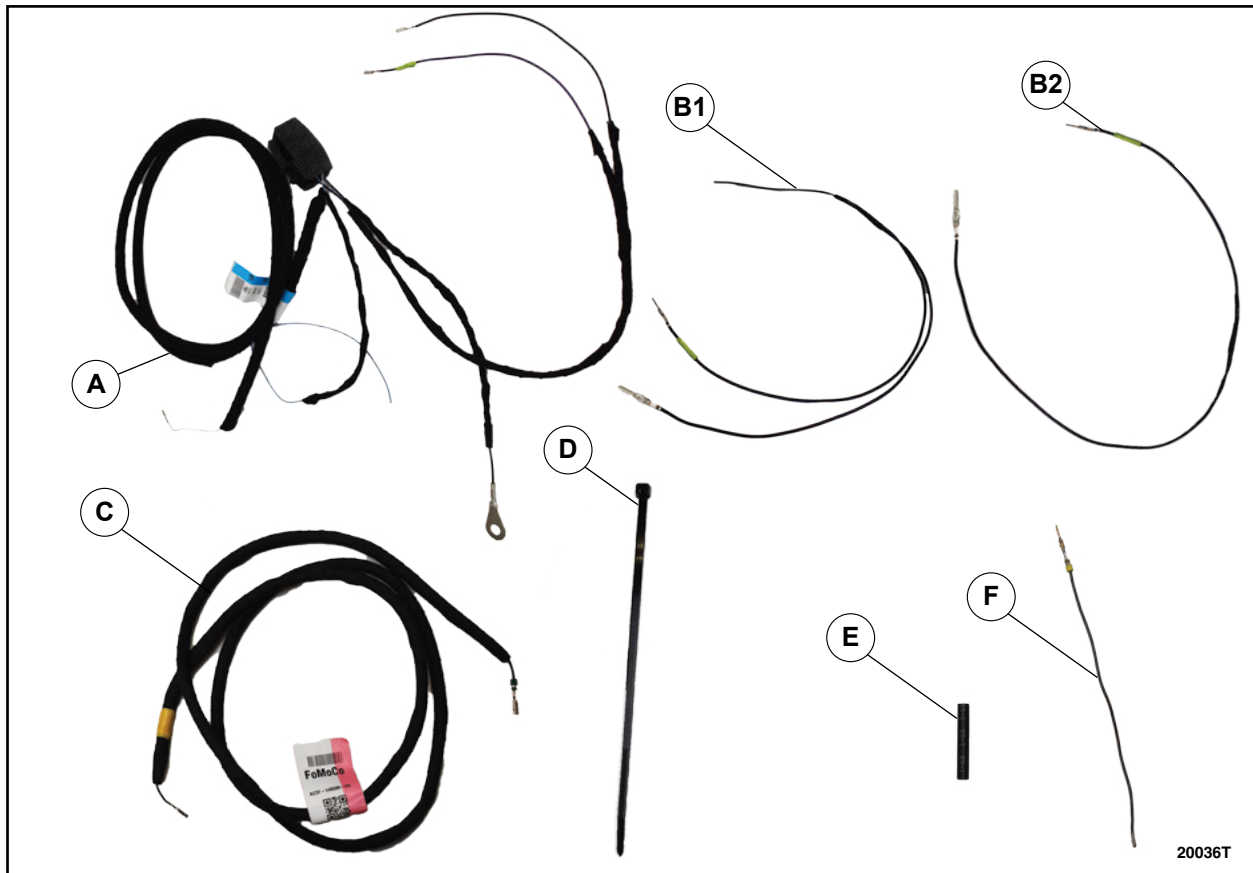

FIGURE 21
**NOTE:** The parts being installed in this procedure are not labeled. Refer to Figure 21 for component identification.
**NOTE:** Use the parts chart on Figure 21 Page 13 to verify if you have B1 or B2 version Floor Board Jumper.